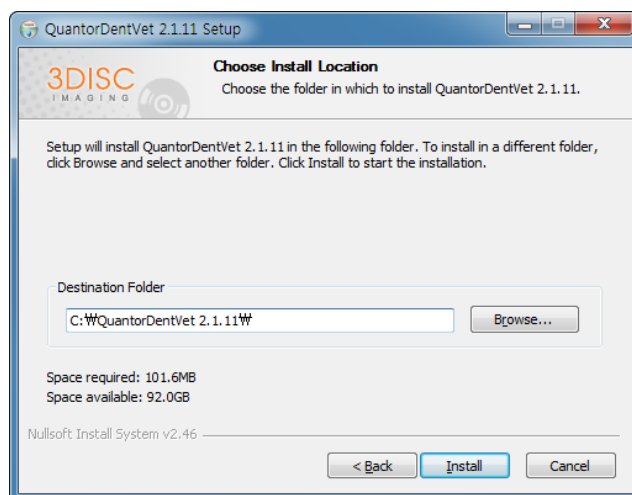

Figure 2.4 Installation Location Dialog Box
- Choose the destination folder and click the “Install” button as shown in Figure 2.4.